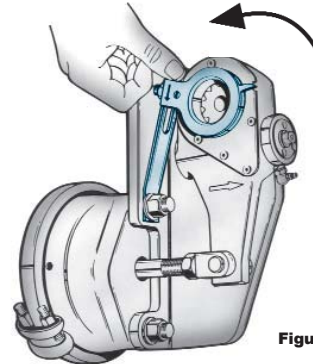

Figure 9
- Rotate the control arm away from the adjusting hex toward the air chamber, until it comes to a definite internal stop (fig. 9).